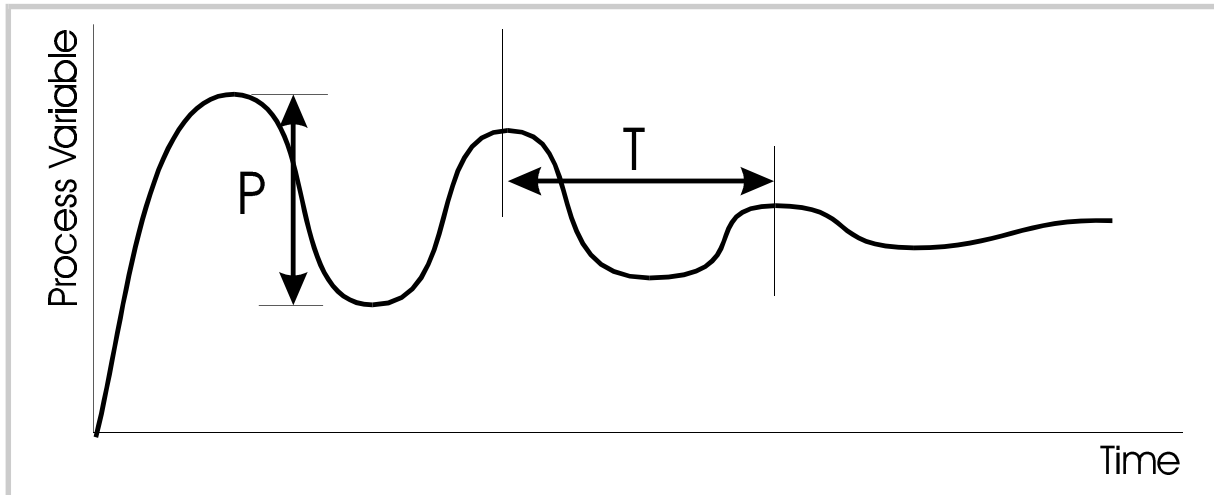

Figure 2-4 Manual Tuning Parameters - Output 1 only
3. Switch on the process. The process variable will oscillate about the setpoint. Note (a) The peak-to-peak variation (**P**) of the first cycle i.e. the difference between the highest value of the first overshoot and the lowest value of the first undershoot, and (b) The cycle time (**T**) of this oscillation in minutes (see Figure 2-4)